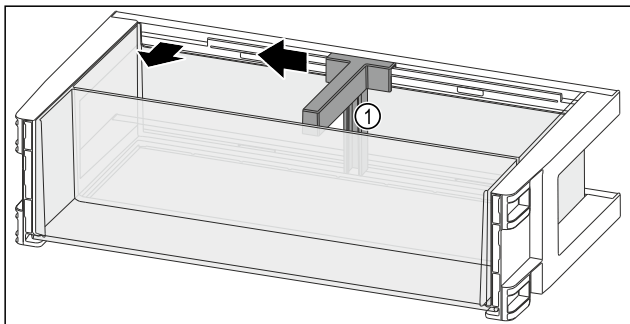

Fig. 142
- Push the bottle holder Fig. 142 (1) to the side up to the recess.
- Remove the bottle holder Fig. 142 (1).